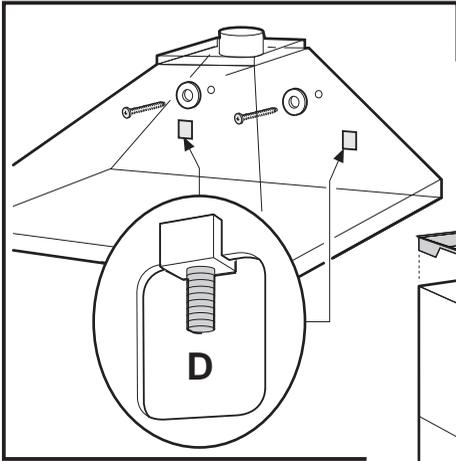

Fig. 6
- Hang the hood on the hooks and level it with the screws **D** (Fig. 6).
- Secure it in place with the two 5x45 mm screws and 5-20 mm diameter washers in the top holes (Fig. 6).